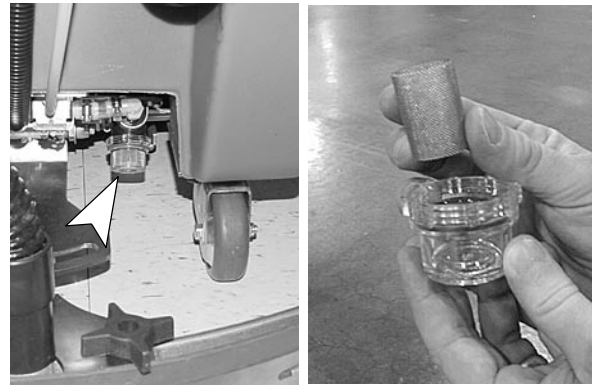

FIG. 27
- Remove inline strainer filter and rinse out. Before removing filter, be certain solution tank is empty. Filter is located under machine at rear (*Figure 27*).